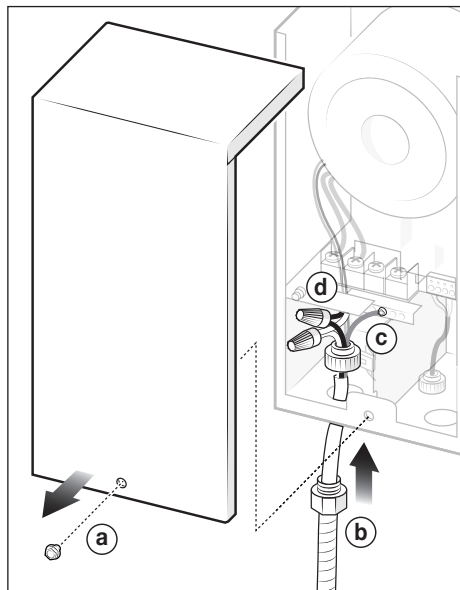

Figure 9. Connect High Voltage Wires
2. Remove the cover. The cover is held on by one screw, see *Figure 9 (a)*.
4. Thread a conduit connector that is rated to local code into the knockout hole on the Light Controller, see *Figure 9 (b)*.
5. Feed 120 VAC through the conduit and conduit connector on the Light Controller, see *Figure 9*.
6. Connect the green ground wire to the ground terminal bar in the Light Controller, see *Figure 9 (c)*.
7. Use wire nuts to connect the line wires (black to black) and neutral wires (white to white), see *Figure 9 (d)*.
4. Use wire nuts to connect the low voltage light wires, white wire connects to orange wire and black wire connects to orange wire, see *Figure 9*. If installing a niched light, connect the green ground wire to the terminal bar in the controller.
- Remove the cover. The cover is held on by one screw, see Figure 9 (a)